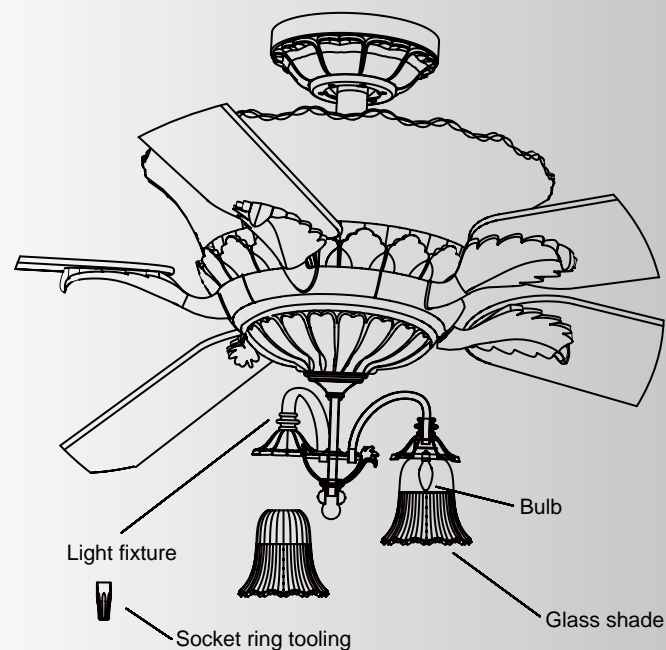

Fig. 4
1. Remove the large nut from each light socket. Place a glass shade over the socket and replace the large nut and tighten with the tool provided. Make sure that the glass shade is straight. Repeat this process for each of the light fixture arms. (Fig. 4)
2. Install 3,60 Watt (maximum) candelabra base light bulbs (not included) (Fig. 4)